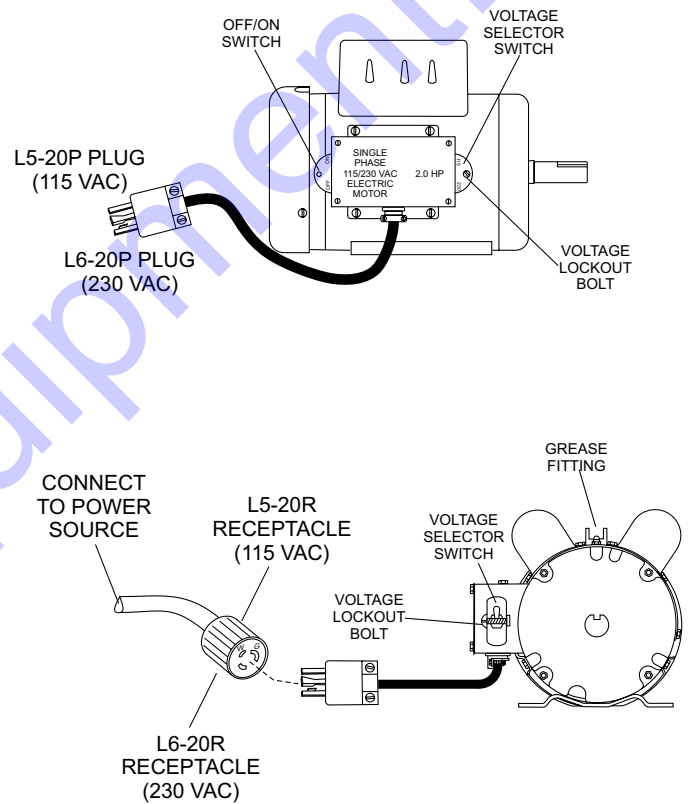

Figure 12. Single Phase Electric Motor With 12-inch Pigtail
- Remove the voltage lock-out bolt (Figure 12). Change the position of the voltage change toggle switch from 115 VAC to 230 VAC. The mixer is factory wired for 115 VAC operation.
1. Place the electric motor's ON/OFF switch (Figure 12) in the OFF position